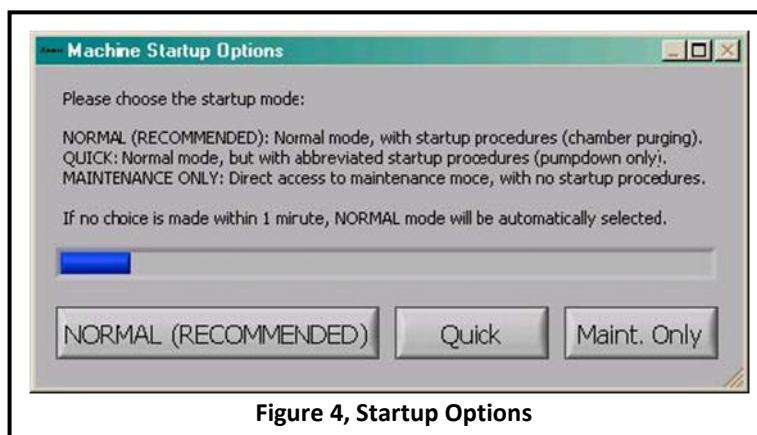

Figure 4, Startup Options
6.1.9 Click on NORMAL to enter Xetch start-up. See *Figure 4, Startup Options*.